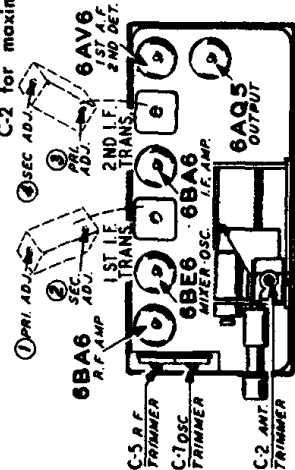

Fig. 4 - Tube Layout
ADJUST TUNING SLUGS (IF) AND TRIMMERS TO MAXIMUM (See Fig. 4)